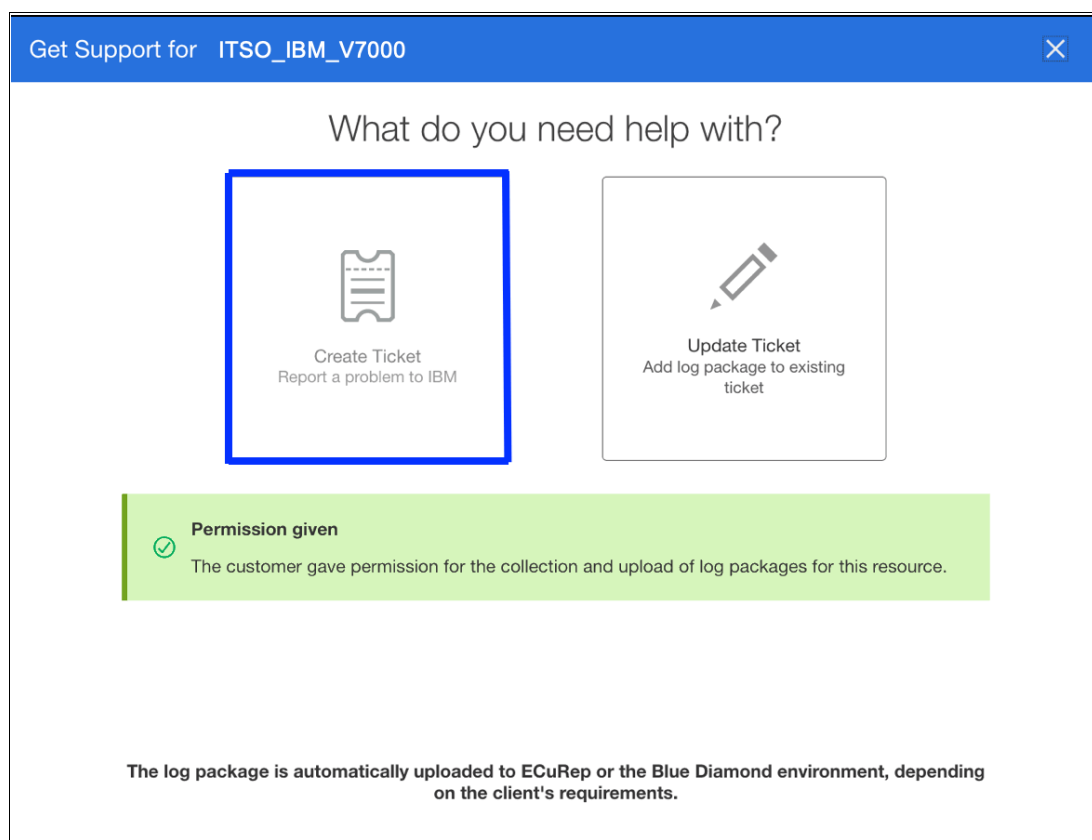

Figure 11-12 Create ticket
Figure 11-12 shows you the window where you can either create or update.
**Note:** The Permission given information box (see Figure 11-12) is an option that you must enable in the IBM Spectrum Virtualize GUI. For more information, see 11.4, “Remote Support Assistance” on page 491.